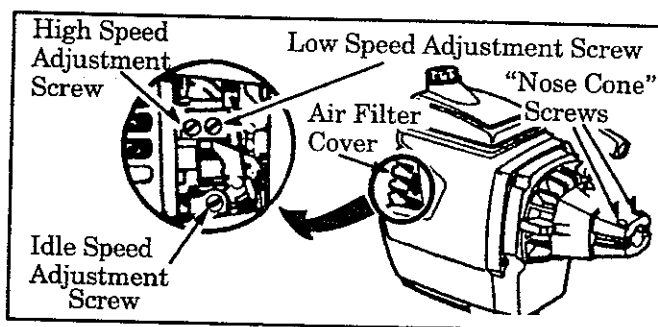

Figure 30
- Turn low speed mixture screw and high speed mixture screw (Figure 30) clockwise until they stop. *Do not turn screws until they are tight as damage to needle seats can occur.*
- Adjust idle speed screw (Figure 30) until the engine continues to run without stalling and without the trimmer head moving.
- If the engine does not accelerate smoothly, turn the low speed mixture screw (Figure 30) counterclockwise a small amount (no more than the width of the slot in the adjusting screw).
- Turn the low speed mixture screw (Figure 30) slowly clockwise until the speed starts to drop. Note this position.
- Turn the high speed mixture screw (Figure 30) very slowly clockwise until engine speed is reduced.